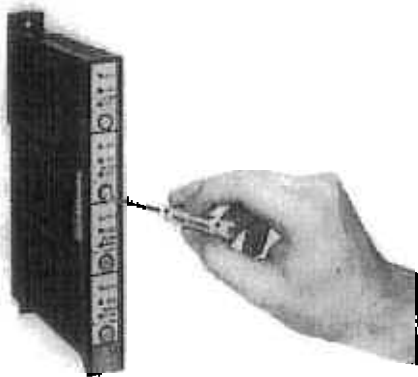

Figure 5 — Using Screwdriver to Remove Fuse Holder
- Both of the output circuits are individually fused. Each fuse is rated 6 amps. Lower rated fuses may be installed depending on the output devices being controlled. Fuses are front accessible. To replace fuse, use a small blade screwdriver (or similar device) and insert the blade into the slot in the front of the fuse holder (see Figure 5). Turn counter-clockwise one quarter turn. Remove and replace fuse. Reinstall fuse holder.